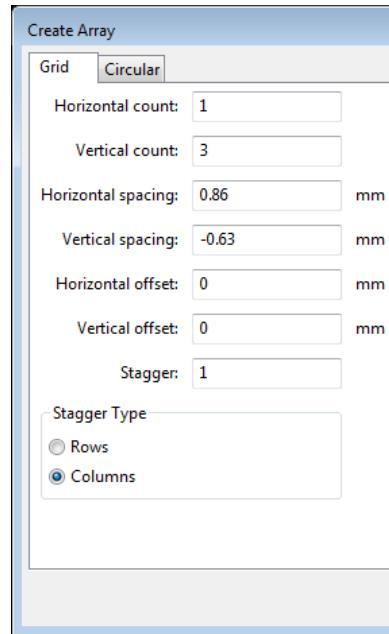

Figure 42: Array setting for pad type 1.
- a) Right click on the pad created above, select “Create Pad Array” (shortcut “ctrl+N”). Set up the “Create Array” dialog box according to Fig. 42. Leave the numbering settings to their default values.